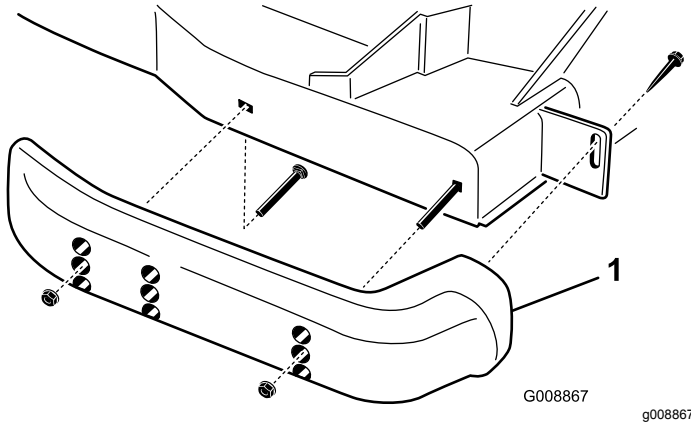

Figure 28
1. Loosen the screw at the front of each skid (Figure 28).
2. Remove the flange-head bolts and nuts from each skid (Figure 28).